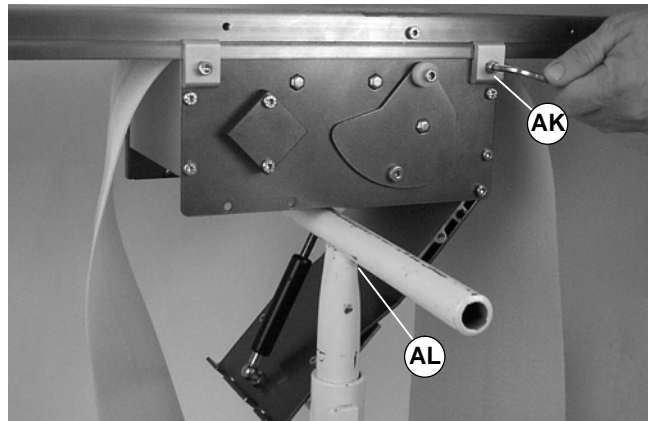

Figure 26
Before loosening clamps (AK of Figure 26), provide a support (AL) under center drive module.
1. Loosen clamp screw (AK of Figure 26) in each corner of module.
5. Replace center drive module onto conveyor and attach clamp (AK of Figure 26) in each corner. Tighten screws to 80 in-lb (9 Nm).